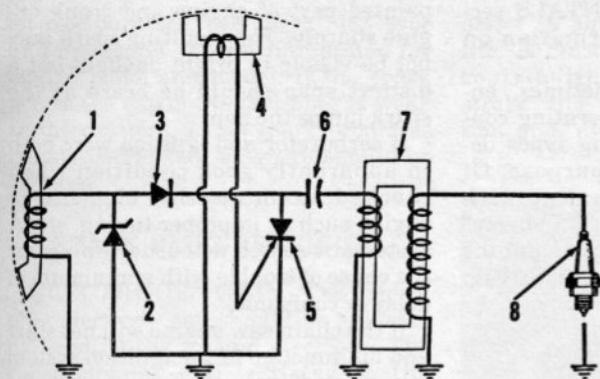

Fig. CS30-Schematic diagram of a simple Capacitor Discharge "Solid State" ignition system.
Fig. CS30 shows a circuit diagram of a typical capacitor discharge, breakerless ignition system using permanent flywheel magnets as the energy source. The magnets pass by the input generating coil (1) to charge the capacitor (6), then by the trigger coil (4) to open the gate and permit the discharge pulse to enter the pulse transformer (7) and generate the spark which fires the plug. Only half of the generated current passes through diode (3) to charge the capacitor. Reverse current is blocked by diode (3) but passes through diode (2) to complete the reverse circuit. Diode (2) may be a Zener Diode to